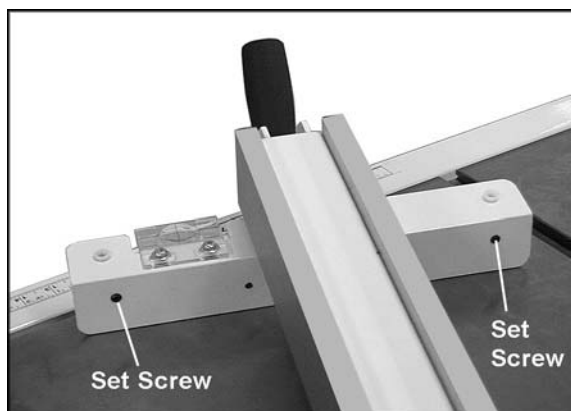

Figure 14
11. If the side of the fence is not parallel with the miter slot, unlock the fence and lift it off the guide rail. Adjust one of the two set screws (Figure 14) until the fence is parallel to the miter slot along its entire length when in locked position.
If adjustment is needed, unlock the fence and lift it off the guide rail. Adjust the two set screws (Figure 14) *equally* until the fence is held securely when the lock handle is pushed down.